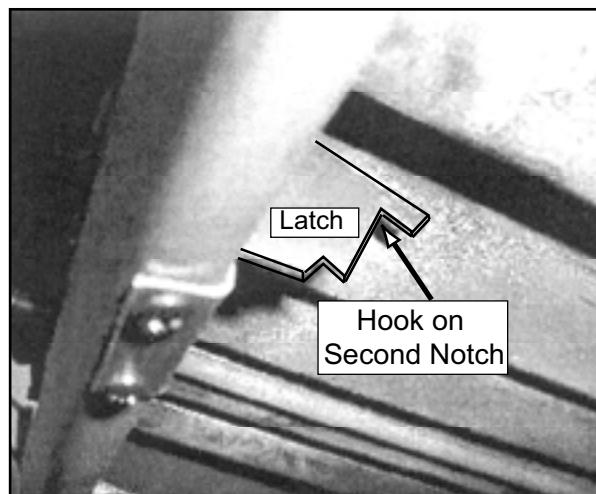

Figure 33.3
- d. To re-install the top baffle, align the hooks on the baffle with the slots in the baffle hangers, push up and slide back. **Figure 33.3.**